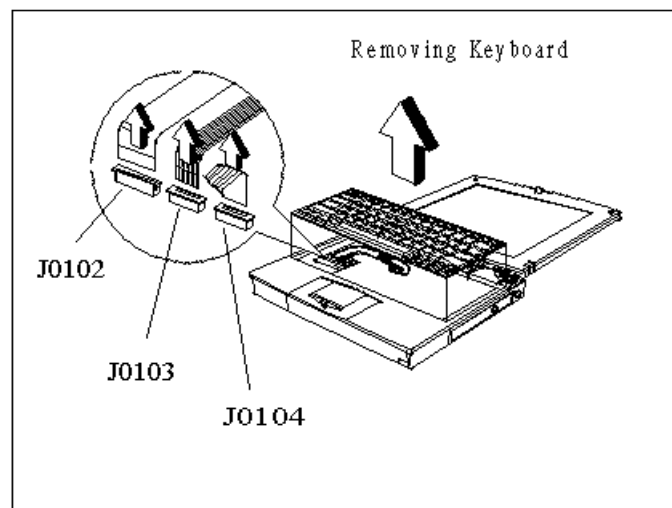

Figure 6-7 Removing/Replacing the Keyboard Assembly
4. Pull up on the keyboard as shown in Figure 6-7 and disconnect the Keyboard cable connectors J0102 and J0103.